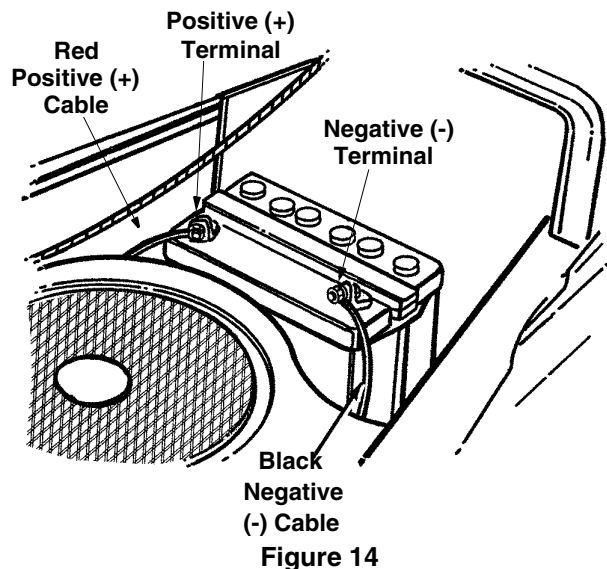

Figure 14
- Lift the hood of the tractor. Remove the wing nuts from the hold-down rods which secure the battery cover to the battery. See Figure 14.
- Attach the positive cable (heavy red wire) to the positive battery terminal (+) with hex bolt and hex nut. See Figure 14. Slide the rubber boot down over the positive terminal.